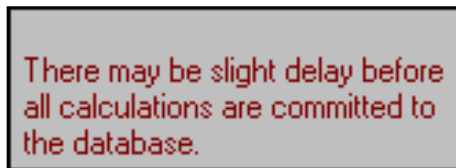

Figure 5-11: Database Warning
4. The warning message that it may take some time for this amount to be added to the database is displayed (Figure 5-11).